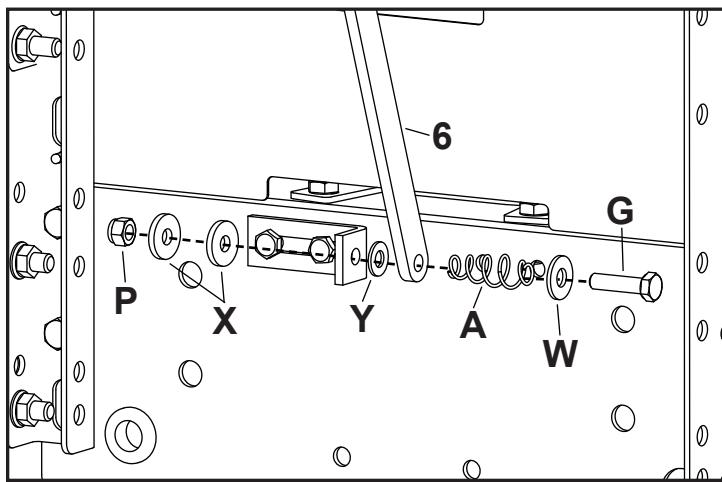

FIGURE 4
STEP 4: (SEE FIGURE 4)
- Install a 5/16" x 1-1/4" bolt (G) through a 7/8" washer (W) and lock spring (A).
- Compress the lock spring (A) with the bolt (G) through the lower hole on the left side of the lower handle (6).
- Install a 11/16" nylon washer (Y) onto the bolt. Between the lower handle and the bracket.
- Install the bolt assembly through the bracket and secure with two 3/4" nylon washers (X) and a 5/16" nylock nut (P).
- Tighten hardware. May need to tighten or loosen hardware to allow the handle (6) to pivot.